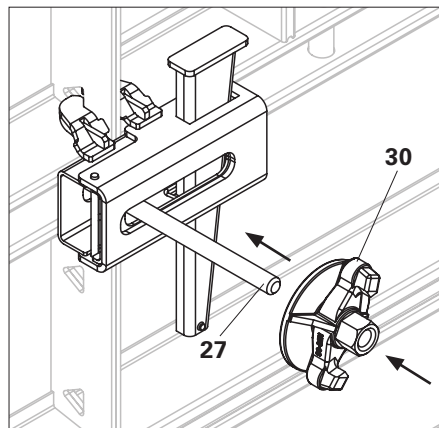

Fig. A4.07
5. Once the clamp is fixed at the panel joints, install the tie rod DW 15 (27) into the tie slot. (Fig. A4.07)
6. Put the wingnut counterplate DW 15 (30) and rotate clockwise. (Fig. A4.07) Perform the same operation on the opposite side.